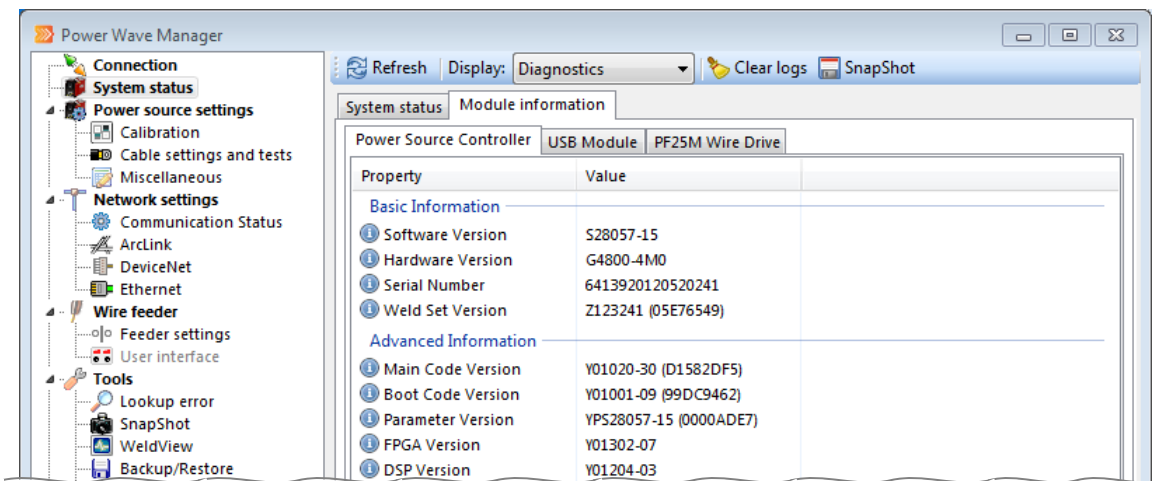

Figure 5.4 Module Information Tab
7. Click the Connect button once you have entered the IP address for the power source you are updating.	the Troubleshooting section (Appendix A). The software scans the Welding Power Source to verify if the firmware currently on the machine is up to date. TIP You can also see this information under System Status > Module Information > Software Version in Power Wave® Manager. See Figure 5.4 on page 5.4.